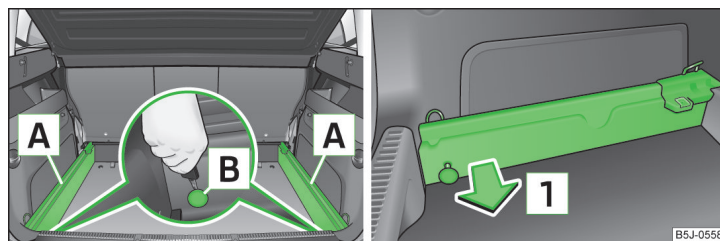

Fig. 70 Boot: Slacken check points/remove carrier rails
- › Undo the securing points **B** » Fig. 70 on the carrier rails using the vehicle key or a flat screwdriver.
- › Press the securing point **B** » Fig. 70 on each carrier rail to the stop.